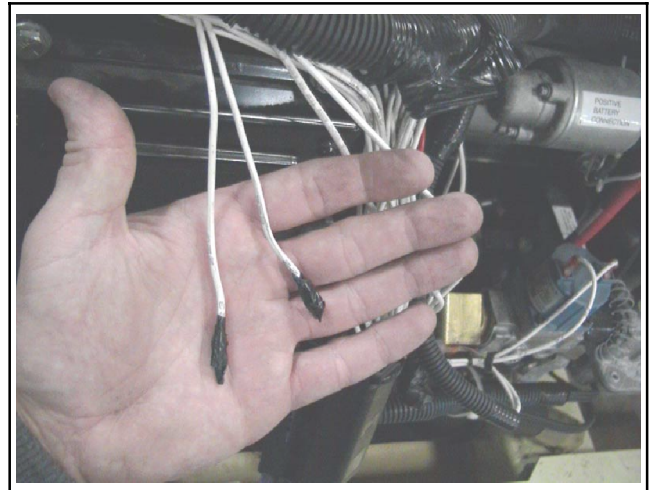

Figure 6 View of Leads #222 and #223 Taped to Prevent Short Circuit
5. Tape the lead #222 left in the harness to prevent a short-circuit condition. See Figure 6.
8. Tape the lead #223 left in the harness to prevent a short-circuit condition. See Figure 6.